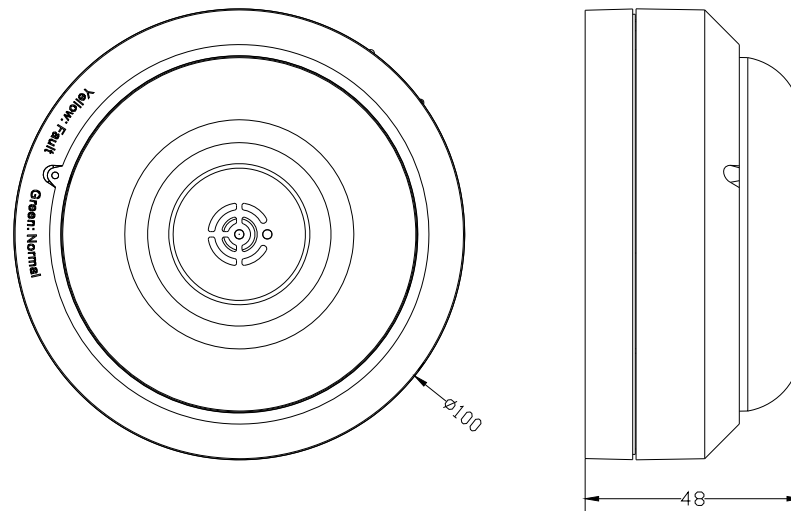

Fig. 1: Sounder strobe outline diagram
4.1 Outline dimension diagram of the indicator as shown in Fig.1 (unit: mm)